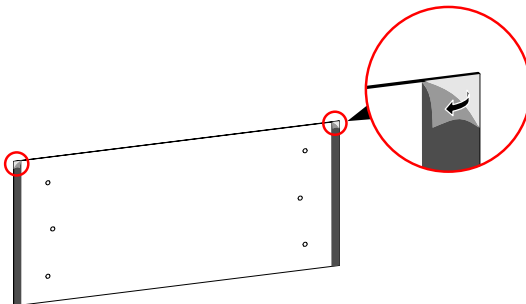

Figure3-18 Tear back glue
1. Mark the installation holes, as shown in Figure3-18.